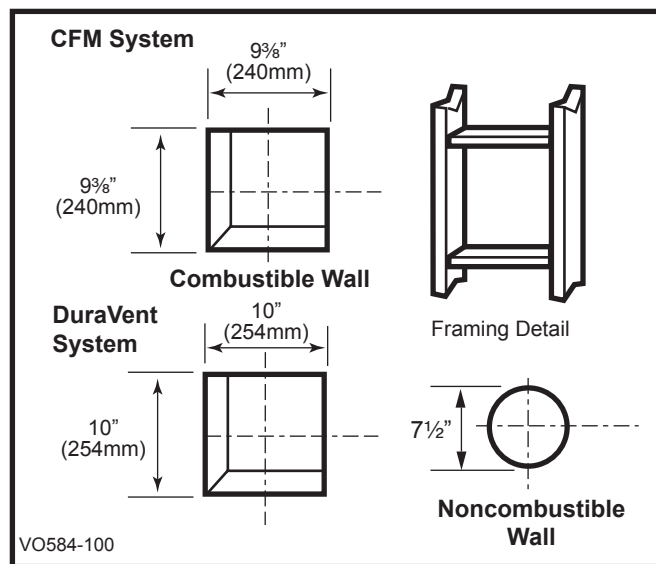

Fig. 24 Locate vent opening.
1. Locate the vent opening on the wall. Refer to Page 6, Figure 5, to determine the opening centerline. It may be necessary to first position the stove and measure to find the hole location. Depending on whether the wall is made of combustible materials, cut the opening to the size shown in Figure 24. Combustible wall openings must be framed as shown in Figure 24.